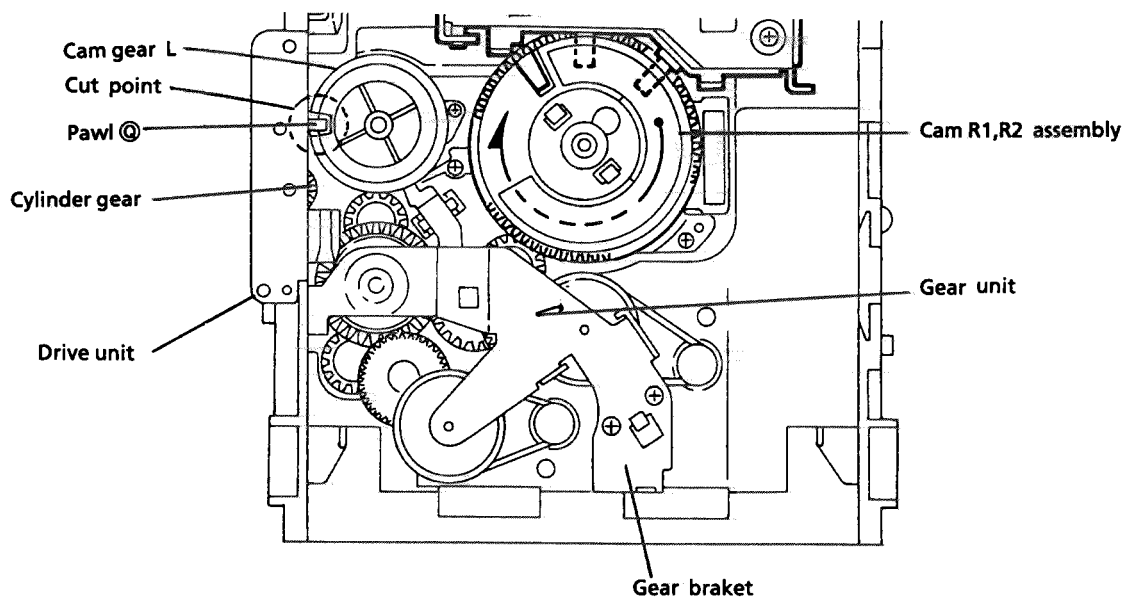

Fig. 42
[NOTE] Set the drive unit's pawl ② so that it is positioned as shown in Fig. 42.